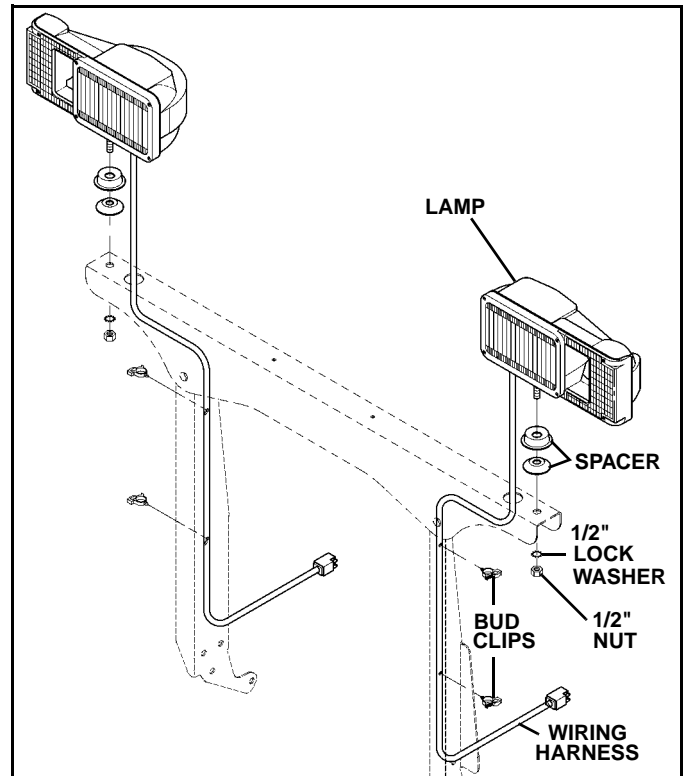

Figure 1-15
Mount lamps on light bar using supplied 1/2" lock washers and nuts. (See Figure 1-15).
9. Route the harnesses through the light bar, through the access hole and down the inside of the light bar supports. (See Figure 1-15).